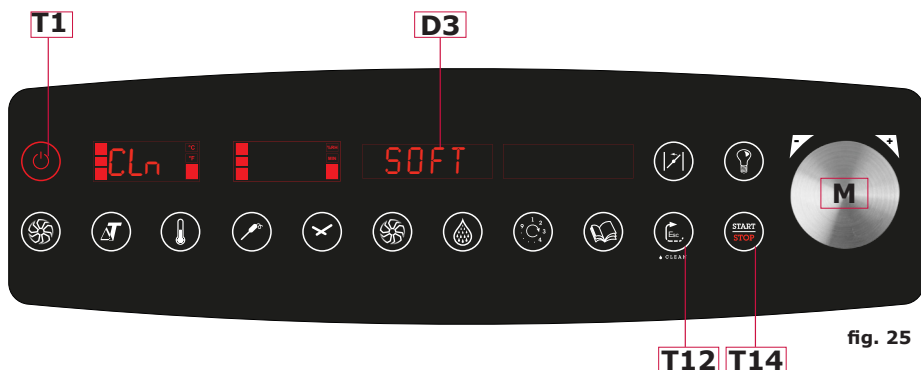

fig. 25
- Switch the oven on using key **T1** (fig. 25).
- Simultaneously press key **T12** (fig. 25) and the knob **M** (fig. 25).
- The display **D3** (fig. 25) will show the type of wash. By turning the knob **M** (fig. 25) select between **SOFT**, **NORM** or **HARD** wash on the basis of the type and quantity of
Loosen the screw **A** (**fig. 25**) and slide the nozzle out by sliding it downwards.